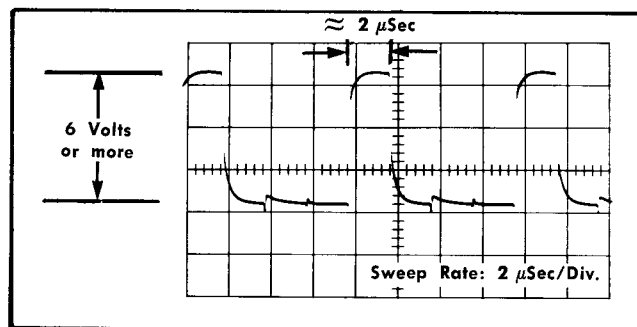

Fig. 6-11. Type 3A74 Ring Counter sync pulse as displayed on the test oscilloscope crt. Vertical deflection factor: 2 volts/div.
- d. Check Ring Counter sync pulse. The waveform should consist of positive-going pulses which have a duration of about $2 \mu\text{sec}$ and an amplitude of about 6 volts or more (see Fig. 6-11).